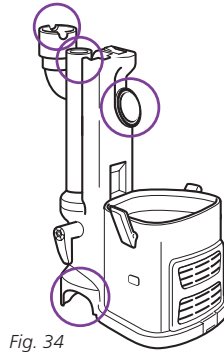

Fig. 34
- Remove the dust cup and extension wand and separate the portable *Lift-Away*® canister from the motorized floor brush. Look in all 4 openings for any blockages. (Fig. 34)